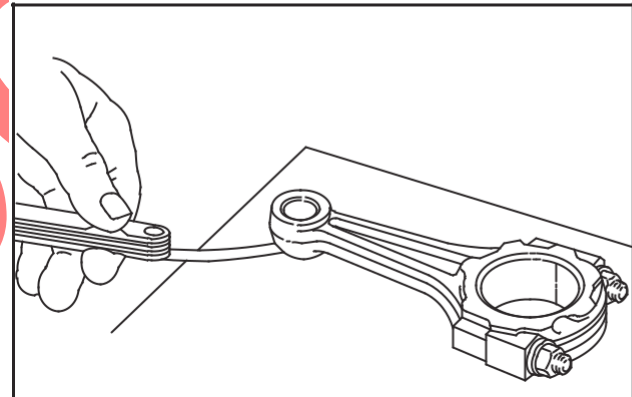

Fig. 9 –Checking Connecting Rod
4. Check for bent or twisted connecting rod, Fig. 9.